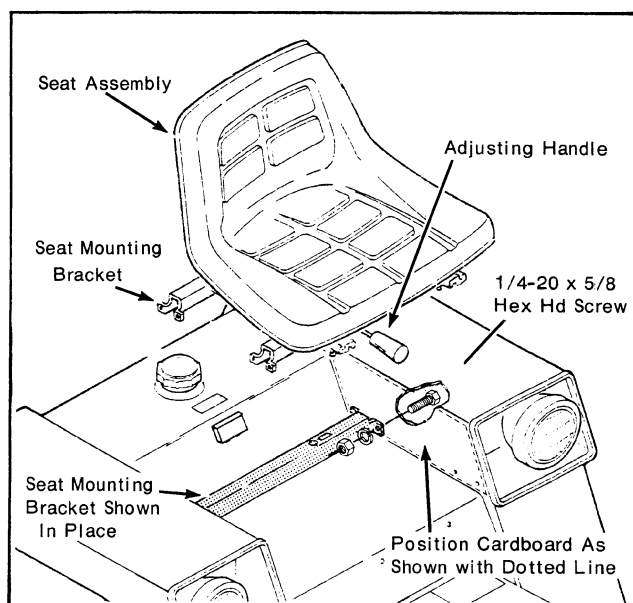

Figure 2
INSTALLING THE SEAT (See Fig. 2)
1. Remove seat assembly from box and (8) 1/4-20 x 5/8 hex hd screws, lockwashers and nuts from bag of parts.
2. Place two pieces of cardboard on inside of rear fenders. (Shown with dotted line in Fig. 2.) The purpose of the cardboard is to help avoid scratching the fenders when sliding in the seat assembly.